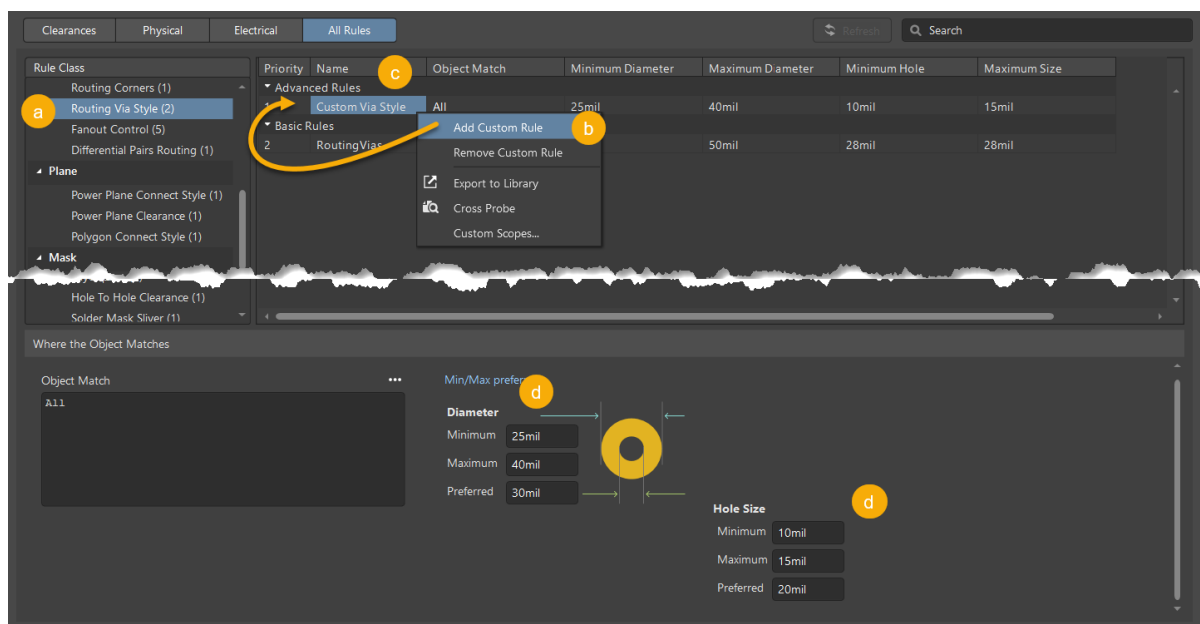

Figure 8. New Via Rule
23. Follow the steps shown in Figure 8 to create a new rule for the via style.